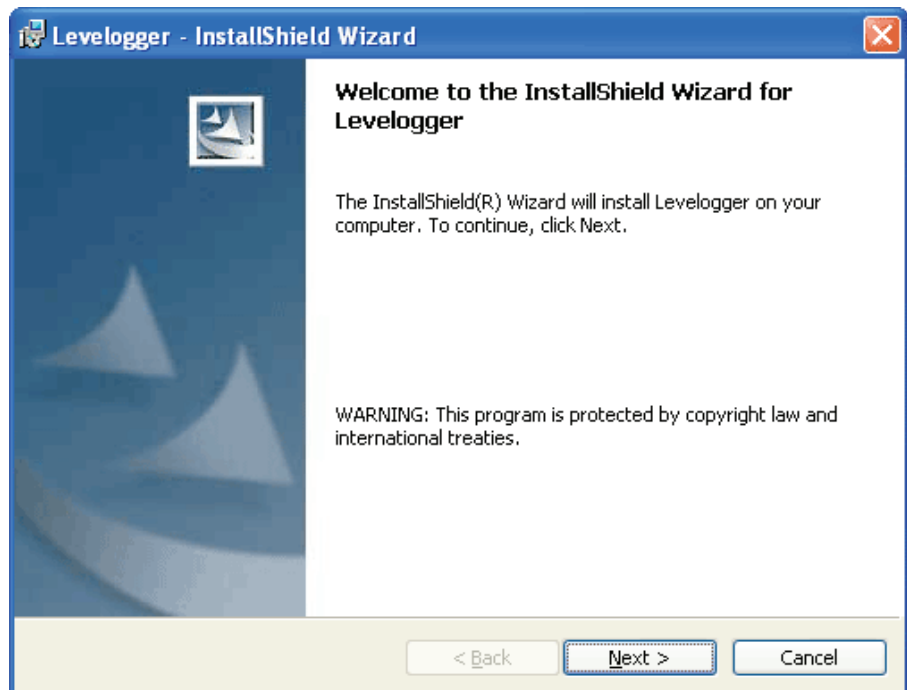

Figure 3-1 Software Installation Wizard
- At this point Windows will prompt you through the remainder of the installation process. Figure 3-1 shows the Levellogger Installation Wizard.